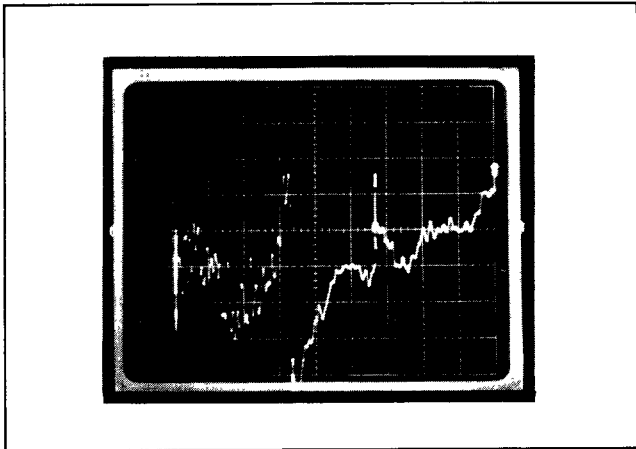

Figure 5-34. Model 6647 Unleveled Full-Band Sweep
- f. Adjust oscilloscope vertical control to obtain a waveform similar to that shown in Figure 5-34.